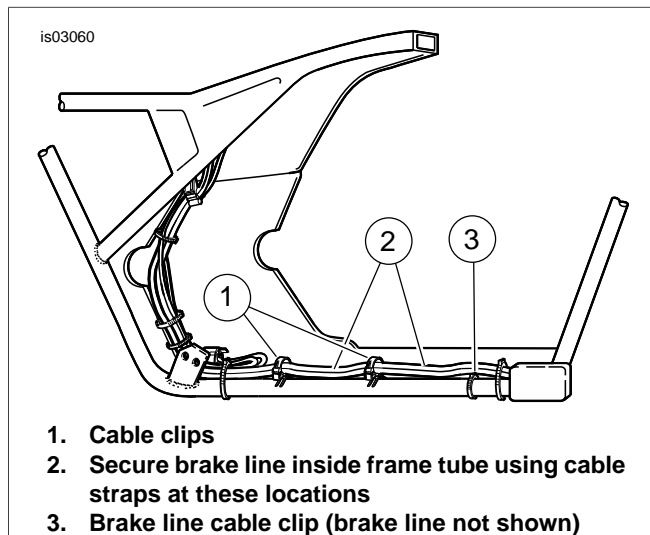

Figure 5. Relocating and Securing Brake line
6. See Figure 5. Open the cable clips shown and gently move brake line out of clips and down along inside of lower frame tube.